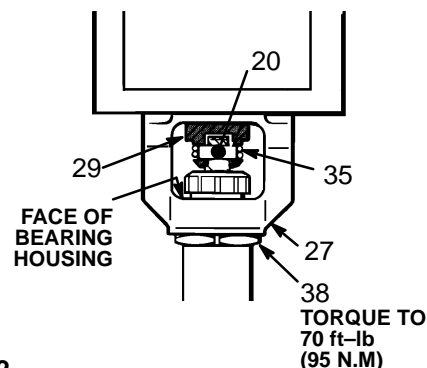

Fig 30-2
12. Screw the displacement pump 3/4 of the way into the bearing housing (27). Hold the pin (20) up to the pin hole in the connecting rod (29). Screw in the pump until the pin slides easily into the hole. Back off the pump until the top threads of the pump cylinder are flush with the face of the bearing housing and the outlet adapter (A) is facing back. Push the retaining spring (35) into the groove all the way around the connecting rod. Tighten the locknut (38) very tight – about 70 ft-lb (95 N.m) – with a 2 in. open end wrench and a light hammer. *See Fig 30-2.*
Be sure the retaining spring (35) is firmly in the groove all the way around, to prevent the pin (20) from working loose due to vibration. *See Fig 30-2.*